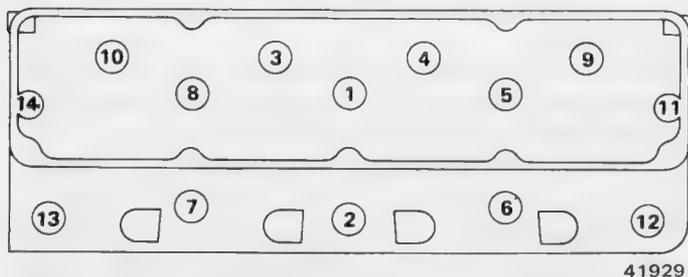

Fig. 1B-146 Cylinder Head Torque Sequence
(4) Tighten cylinder head capscrews evenly to 80 foot-pounds (108 Nm) torque following the sequence outlined in figure 1B-146. Then follow the sequence again and tighten screws to 110 foot-pounds (149 Nm) torque.